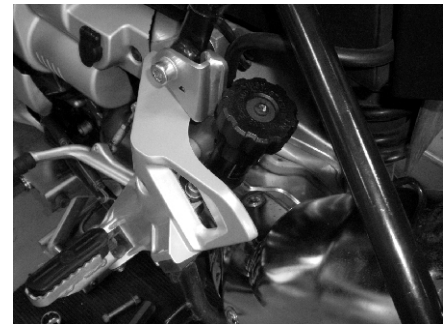

figure 3
- Mount the adjuster to the supplied mounting bracket using the supplied M6-1.0X8mm SHCS fasteners and torque them to 80-90 in/lbs (9-10 N-m). Then mount the bracket and adjuster to the bike in the same location as the stock preload adjuster/bracket using the stock bolt as shown in *figure 3*.